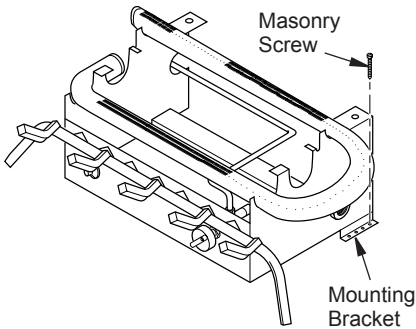

Figure 12 - Attaching Base Assembly to Fireplace Floor - Dual Burner Model
7. Mark screw locations through holes in mounting brackets (see Figure 12, page 13). If installing in a brick-bottom fireplace, mark screw locations in mortar joint of bricks.
10. Attach base assembly to fireplace floor using two masonry screws (in hardware package) (see Figure 12, page 13).